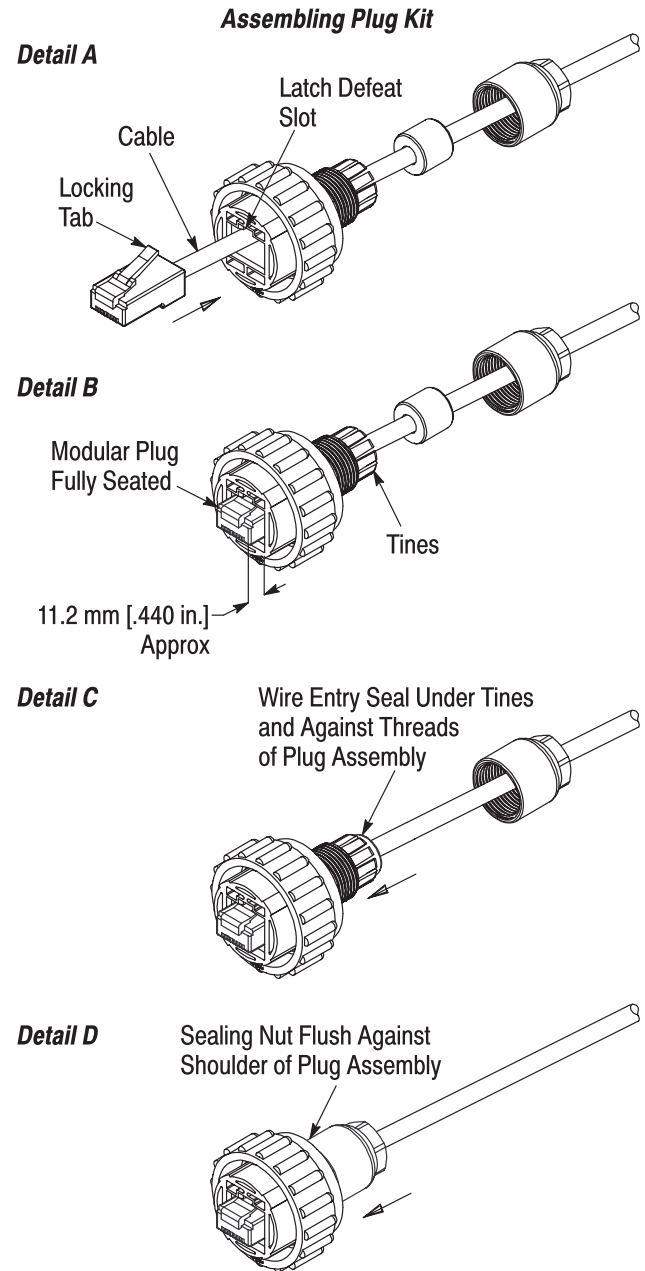

Figure 2
- Slide the sealing nut, wire entry seal, and plug assembly onto the cable. Make sure to orient the components as shown in Figure 2, Detail A.
3. Align the locking tab of the modular plug with the latch defeat slot of the plug assembly. See Figure 2, Detail B. Depress the locking tab, and insert the modular plug into the plug assembly. Push the plug until it is fully seated. There should be approximately 11.2 mm [.440 in.] of the modular plug protruding from the mating face of the plug assembly.
4. Slide the wire entry seal under the tines of the plug assembly until it butts against the threads. See Figure 2, Detail C.
5. While holding the modular plug in position, thread the sealing nut onto the plug assembly until tightened to a torque of 0.8 N-m [7 in.-lb]. Make sure that the sealing nut is flush against the shoulder of the plug assembly. See Figure 2, Detail D.